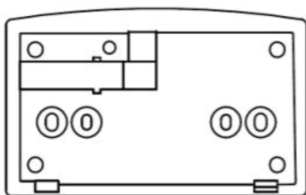

Fig.3
2. If required, fix the back plate directly on the wall using suitable wall plugs and screws or mount over existing wall box (Fig.3). Alternatively, use the stand provided.